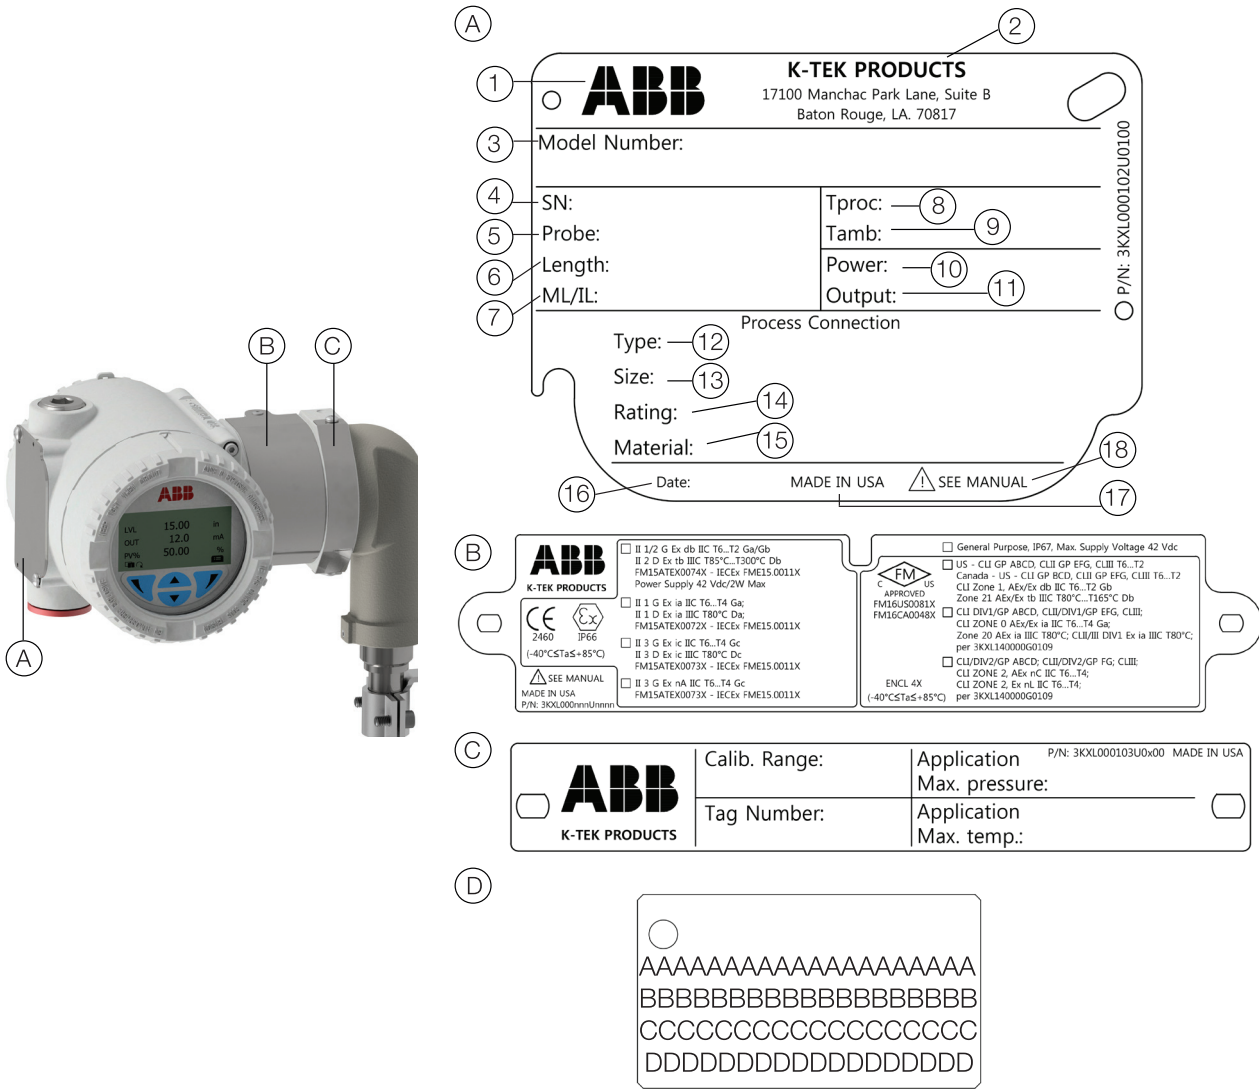

Figure 4 Identification Plates
The transmitter is identified by the name plates. (A) The nameplate provides information (see figure 4) concerning the model number, probe length, sensor material, process connection type, process connection material, maximum pressure ratings, power supply, output signal, serial number, maximum processed temperature limits and Maximum ambient temperature limits. (B) The certification plate contains the certification-related parameters for use in a hazardous area.
The LMT Series of transmitters can be supplied with an optional wired-on, stainless-steel plate (Figure 4, D). The plate is laser-printed with custom text, as specified by the user. The available space consists of 4 lines with 32 characters per line. The plate will be connected to the transmitter with a Stainless Steel wire.